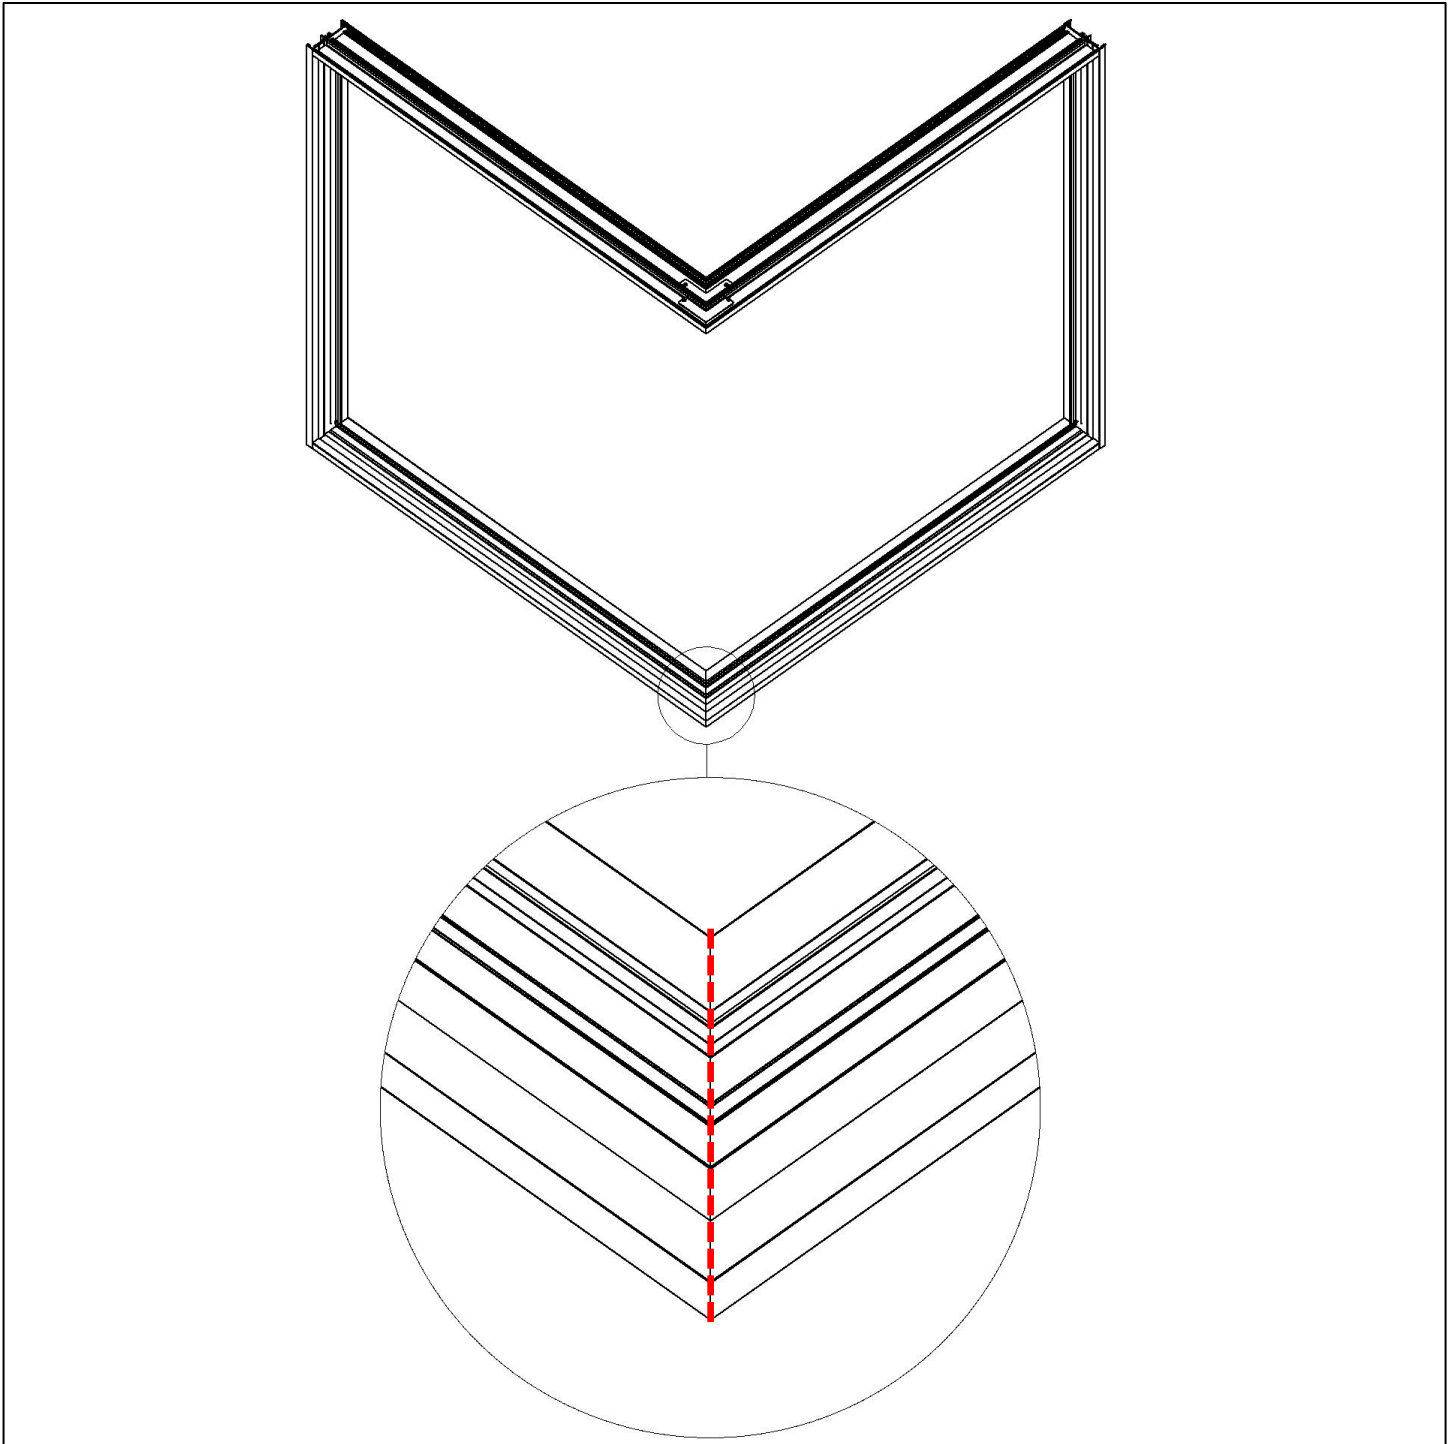

Fig. 3
3. Seal the entire joint where the corner key meets the frame on the exterior side (see Fig. 3).